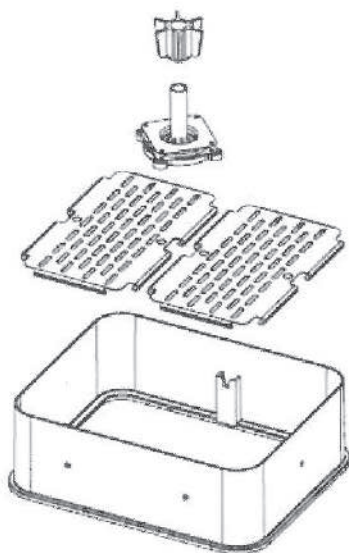
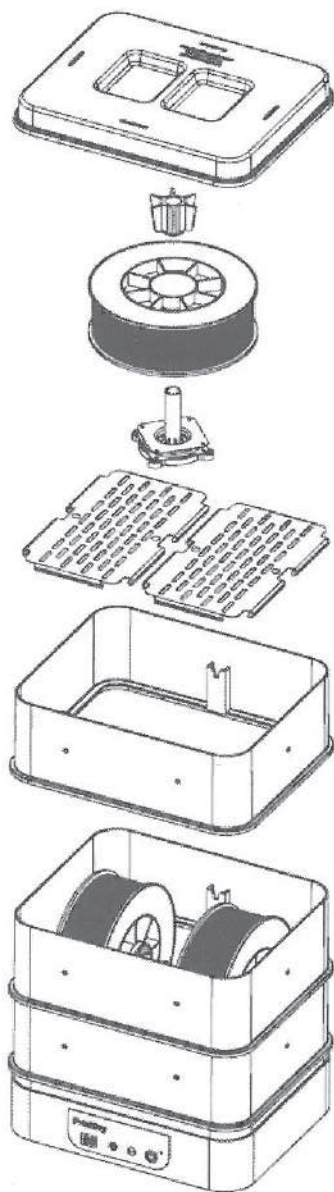

Fig.8 Optional 3rd chamber kit
Fig.9 The use of an optional 3rd chamber kit
- An optional 3rd chamber kit (Fig. 8) can be added on top to serve an additional filament spool, as shown in Fig. 9.